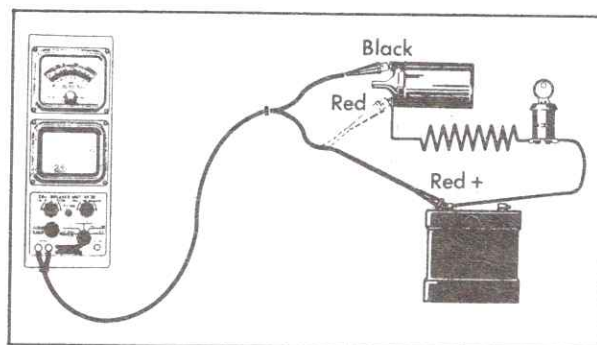

Fig. 6-28 Coil Capacity Test
6. Connect tester leads as shown in solid lines, Fig. 6-28, to include primary circuit in test circuit.
**NOTE:** If coil tests "bad", reconnect positive tester lead as shown by dotted lines in Fig. 6-28, and readjust Coil Set Regulator until meter reads at set point 8, then retest coil. If the coil tests "good", check primary circuit as described in Note 35. If the primary circuit tests "good", check the ballast resistor wire with an Ohmmeter. Resistor value is 1.40 to 1.65 ohms.